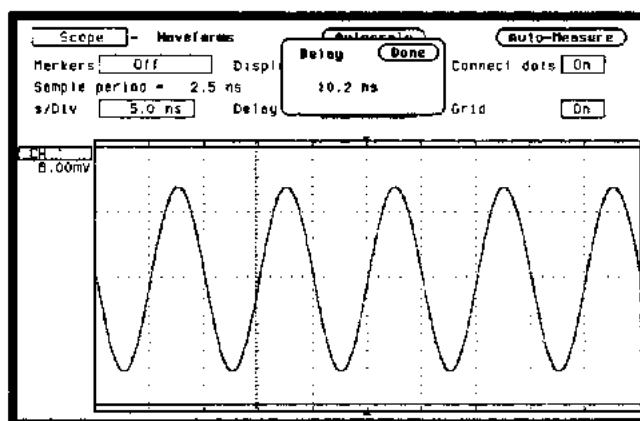

Figure 3-61. Waveforms Display
13. Select Delay again and use the knob to move the rising edge of the waveform directly over the center reference as in figure 3-61. Verify that the delay is within the limits specified in the table.